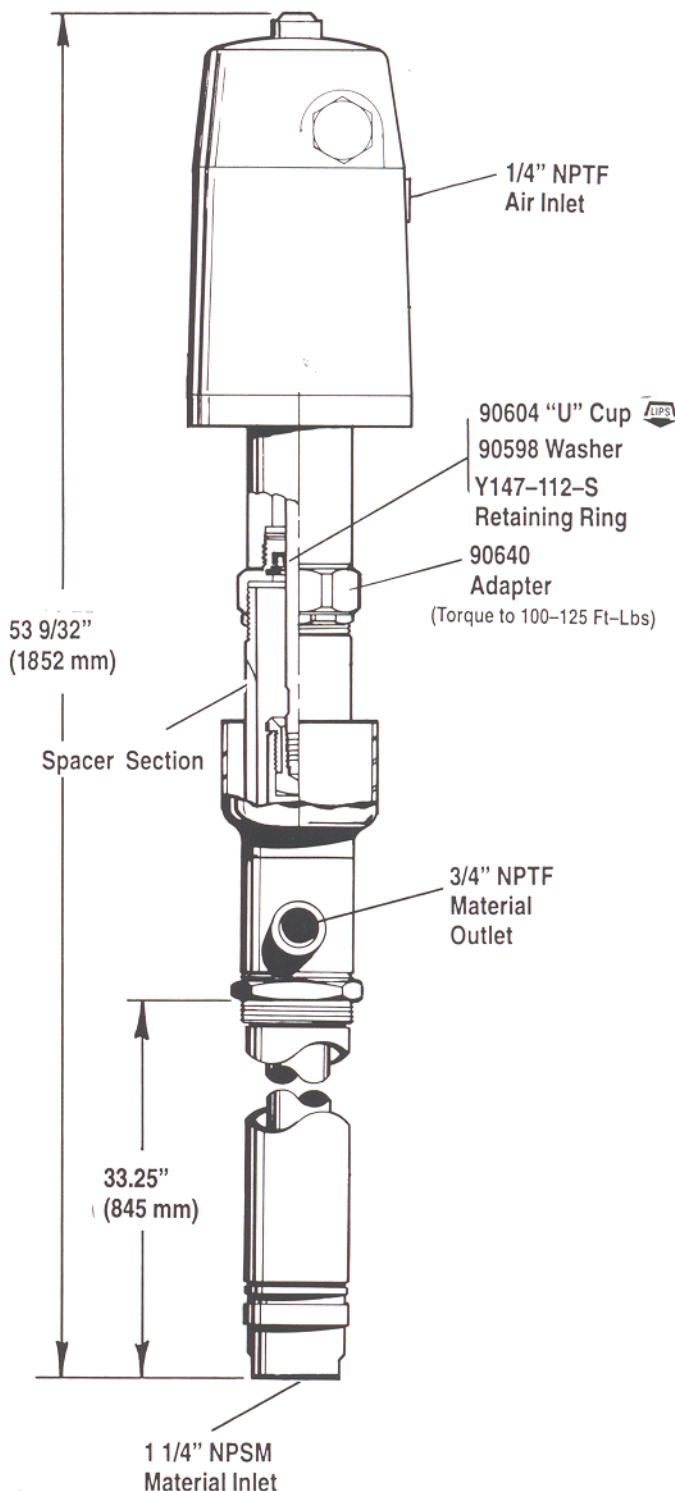

Figure 2
1. Loosen (3) lock nut and unscrew entire pump from the air motor base. This will expose (1) retaining screw. (Refer to Figure 2.)
2. Unscrew (1) retaining screw to remove pump assembly from air motor.
3. Unscrew (2) shoulder nut to remove (1) retaining screw.
1. Slide (1) retaining screw over air motor rod as shown in Figure 2.
2. Screw (2) shoulder nut to air motor rod.
3. Screw (1) retaining screw to lower pump plunger.
5. Screw (3) lock nut to screw lower pump end to air motor.